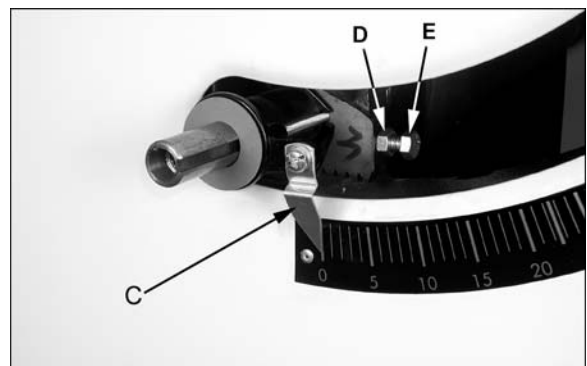

Figure 21
8. Verify pointer accuracy (C, Figure 21). Adjust if needed.
11. If blade is not at 45-degrees, loosen lock nut (D, Figure 21) and turn stop screw (E) on the front trunnion as needed. The stop screw should contact front trunnion bracket when blade is 45-degrees to table. (Note: You may wish to remove front handwheel for better access to stop screw.)
12. Verify pointer accuracy (C, Figure 21).